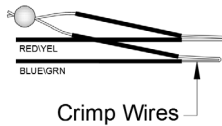

Figure 5 – Crimp GCA Wire Leads
- In the middle of the exposed wire section, use small pliers to fold the wires in half and crimp, leaving the shunt intact (Figure 5).